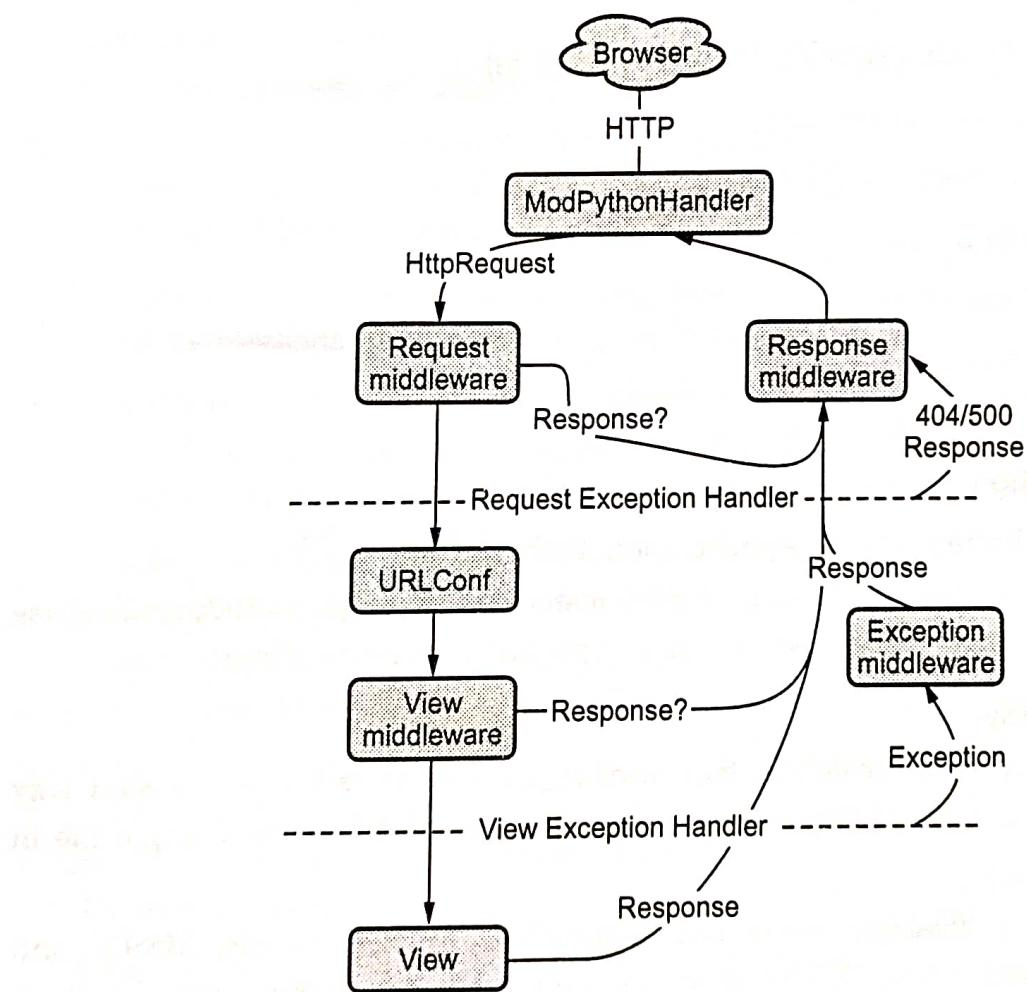

Fig. 7.2.3 : Complete flow of a Django request and response
- Fig. 7.2.3 shows complete flow of a Django request and response.